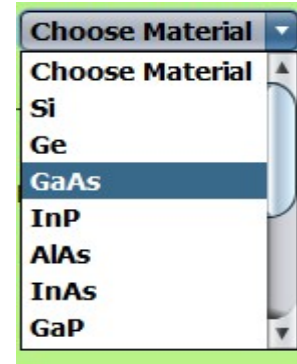

Fig 3: Choose material
- Clicking on the **Choose Material** dropbox a menu containing several materials names will be shown like shown in figure 3.